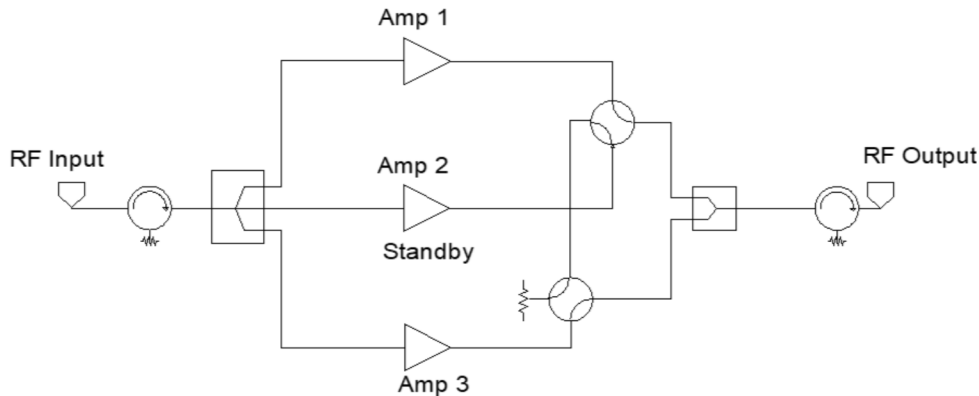

Figure 20: Block Diagram, 1:2 Fixed Phase Combined System
The 1:2 Fixed Phase Combined Redundant System is a popular system architecture that enables Solid State Power Amplifiers to achieve higher output power levels while building in a level of redundancy. The basic system topology is similar to a 1:2 redundant system and is shown in Figure 20.
Figure 20 shows the RF Signal Path Display for the three (3) amplifiers in a 1:2 Phase Combined System. The green dotted lines indicate the RF path through the input splitter to Units 1 and 3 and then through the switching/combiner array to the system output. Unit 2 is in Standby mode. The online amplifiers are also green to indicate their online status.